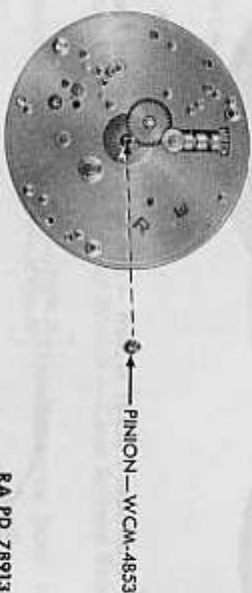

Figure 101 — Waltham Pocket Watch — Cannon Pinion Removed
j. Remove Cannon Pinion (fig. 101). Remove the cannon pinion with a pin vise. The cannon pinion must be pulled straight upward to prevent bending or breaking the center wheel arbor.
j. Replace Cannon Pinion (fig. 101). Replace cannon pinion.